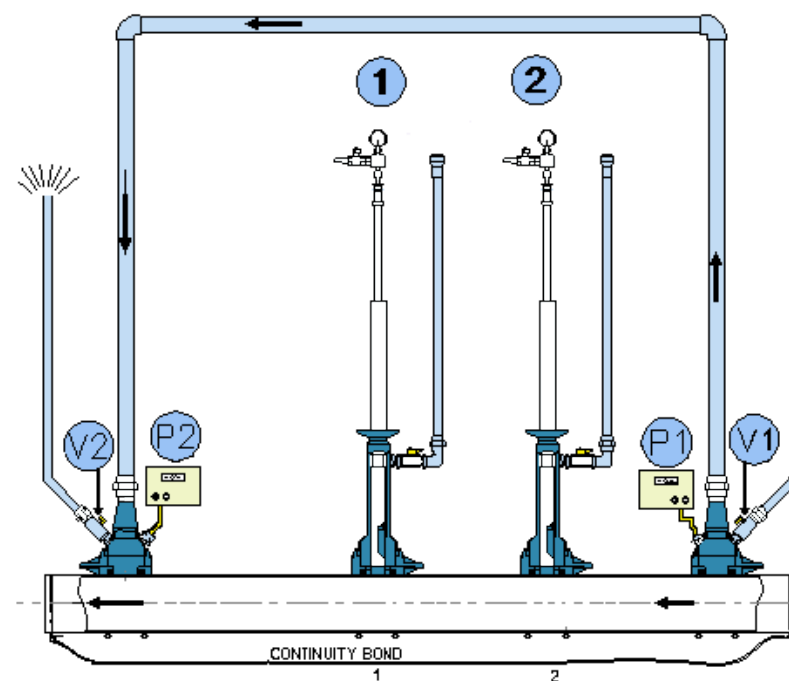

Figure 89- Commission Bypass
- Reference should be made to Figure 89.